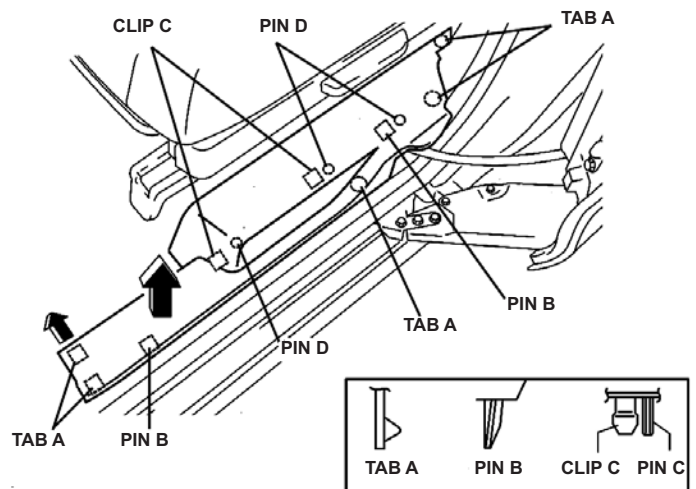

FIGURE 35
- 1.) DETACH TABS A WHILE PULLING THE REAR SCUFF PLATE IN THE DIRECTION OF ARROW (1). DETACH PINS B, CLIPS C, PINS D WHILE PULLING IN THE DIRECTION OF ARROW (2). (SEE FIGURE 35)